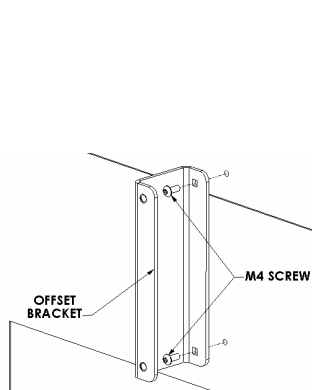
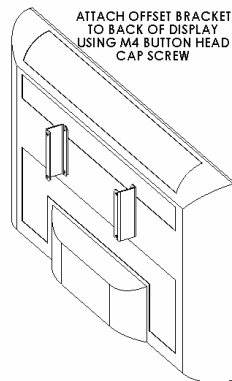

Figure 4
Figure 5
2. Place Offset Bracket on mounting holes, aligning square hole pattern on brackets with pattern on back of LCD Display (see Figure 4 & Figure 5).